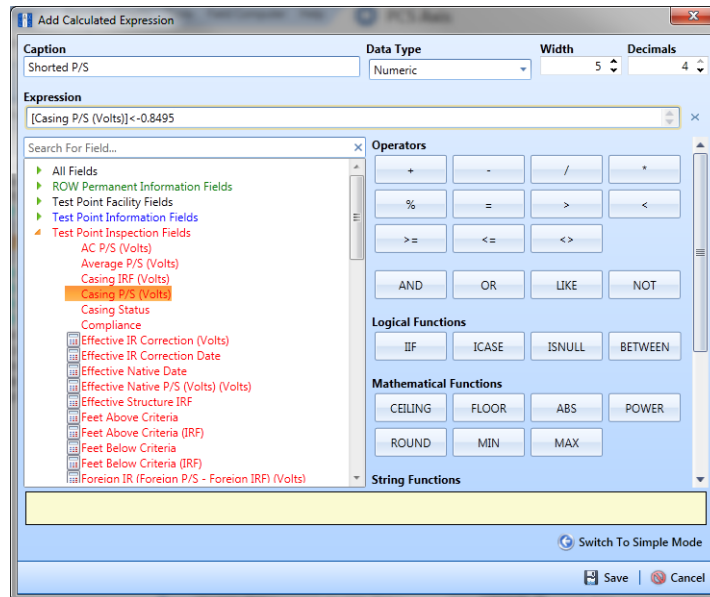

Figure 2-29. Add Calculated Expression (Advanced Mode)
- 4 Click  **Calculated** in the toolbar to open the *Add Calculated Expression* dialog box. If you want to work with the expression editor in advanced mode, click  **Switch To Advanced Mode** (Figure 2-29).